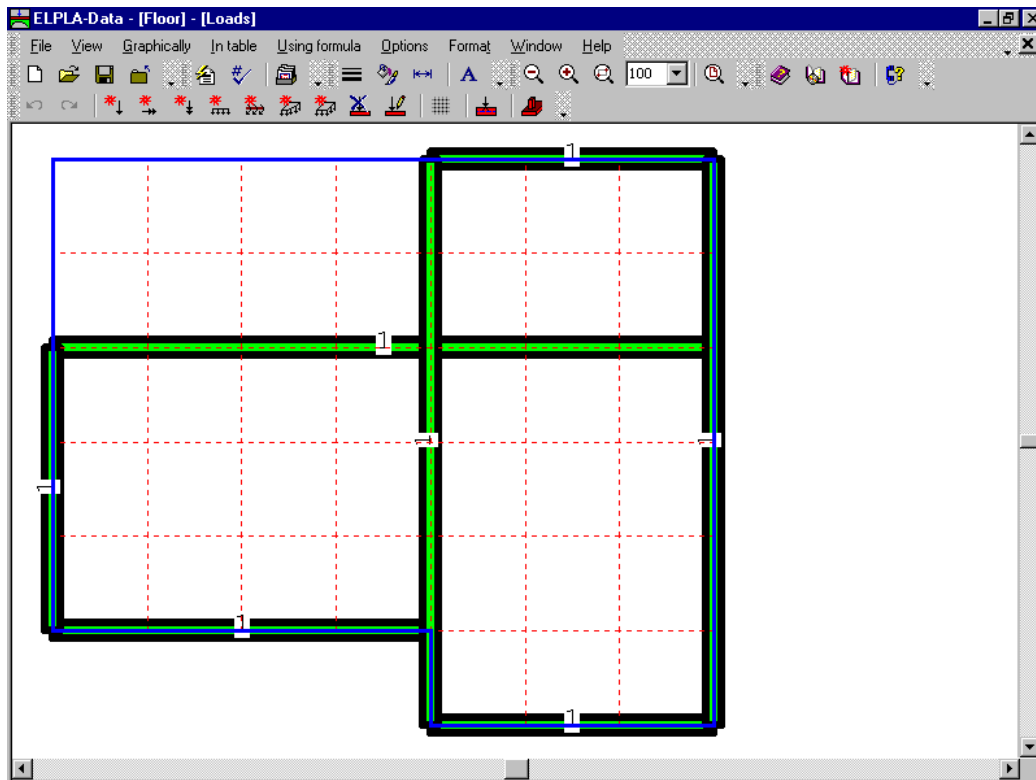
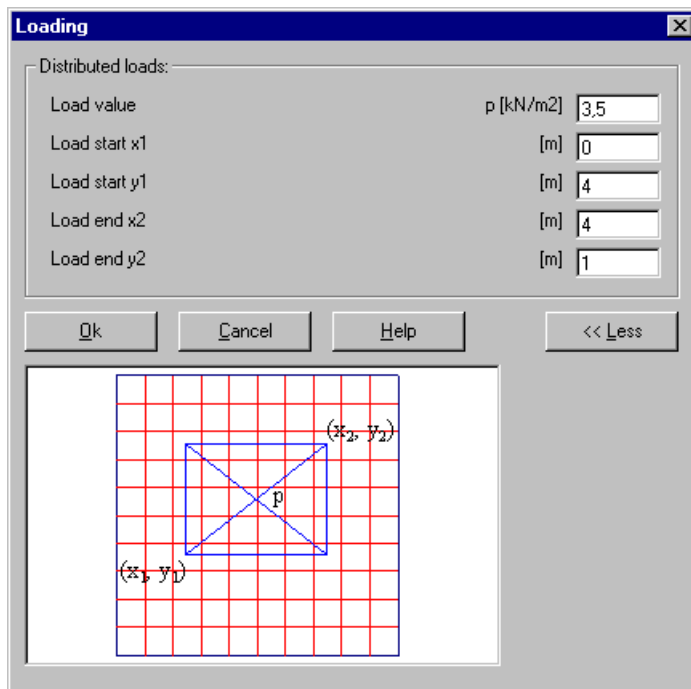

Figure 2-32 "Loads" embedded program
Figure 2-33 "Loading" dialog box
To define the loads choose "Loads" command from "Data" menu of *ELPLA-Data*. The following embedded program in Figure 2-32 appears with girders on the net.
- Choose "Distributed loads" command from "Graphically" menu in the window of Figure 2-32. When "Distributed loads" command is chosen, the cursor is changed from an arrow to a cross hair. Then the load can be defined by holding the left mouse button down at the starting point of the distributed load. As the mouse is dragged, a box appears, indicating a distributed load is being defined. When the left mouse button is released, the following dialog box in Figure 2-33 appears with the load value and coordinates